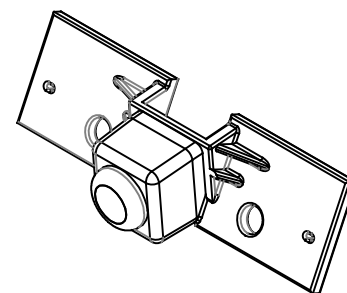

Figure 2: Backup Camera in Factory Mounting Plate
2. **Remove and save** the backup camera and wire harness from the tailgate. Leave the camera attached to its mounting plate (Figure 2).